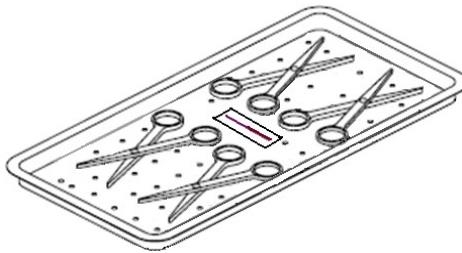

Figure 21
- C. Check that the reading of the pressure gauge returns to zero (0), and then rotate the “ Door handle ” 90° counter-clockwise to open the door.
- D. Place objects for sterilization and the chemical indicator (or biological indicator) onto the tray according to your needs. As shown in Figure 21.